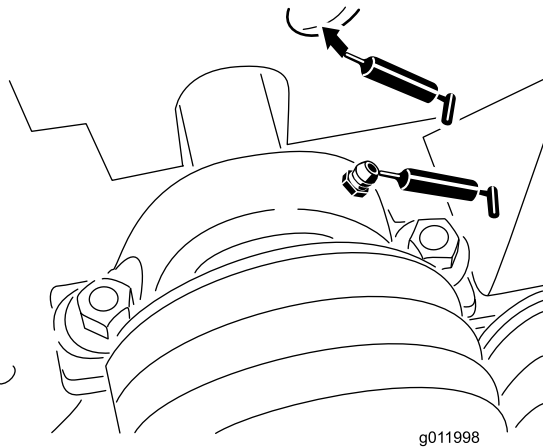

Figure 10
The (2) fan shaft bearings (Figure 10) must be lubricated after every 8 hours of operation with a No. 2 Lithium-based grease.